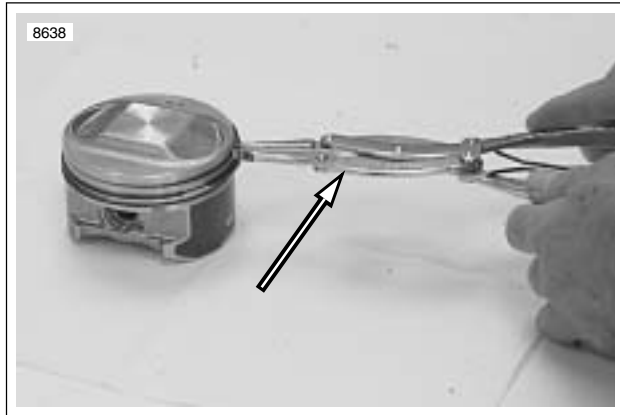

Figure 3-99. Installing Piston Rings Transmission Shaft Retaining Ring Pliers (Part No. J-5586)
9. See Figure 3-99. Apply engine oil to piston grooves. Use TRANSMISSION SHAFT RETAINING RING PLIERS (Part No. J-5586) to slip compression rings over piston into their respective grooves. Be extremely careful not to over expand, twist rings or damage piston surface when installing rings.